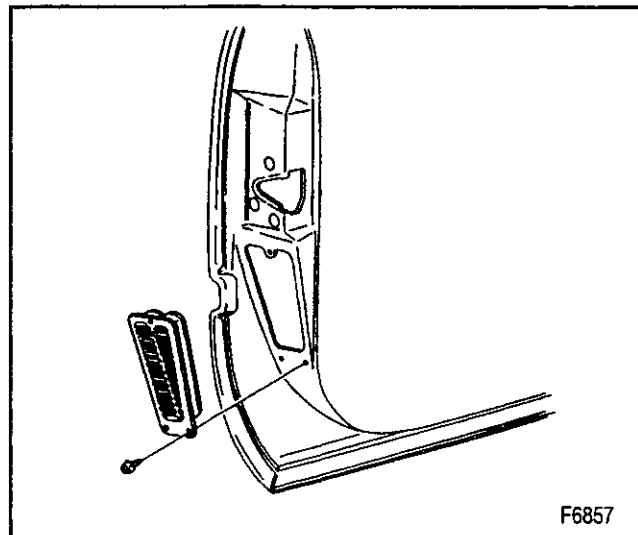

Figure 14—Pressure Relief Valve
**Remove or Disconnect (Figure 14)**
**Install or Connect (Figure 14)**